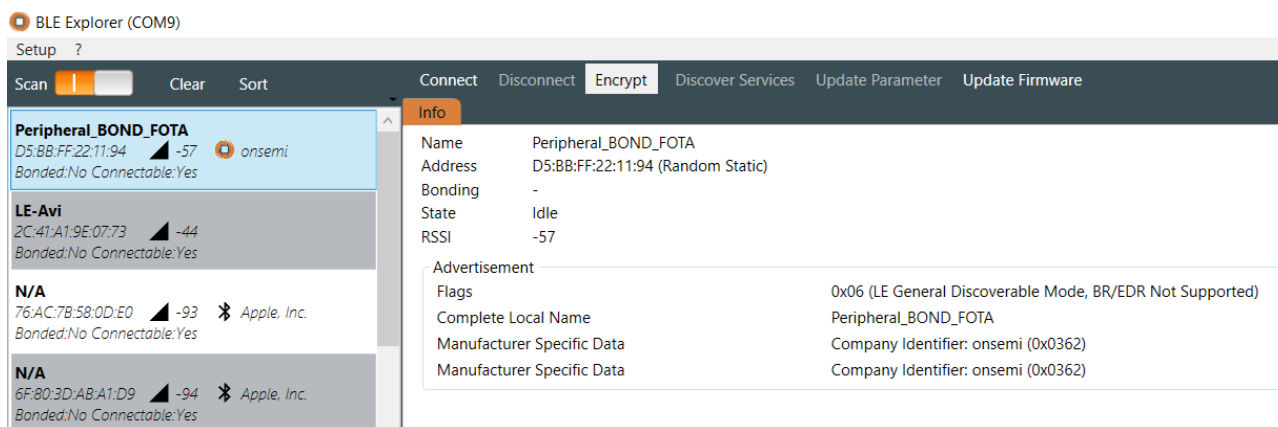

Figure 17. Application Running
4. Verify that your application is running by looking for the advertisement name **Peripheral_BOND_FOTA** on the RSL10 Bluetooth Low Energy Explorer, as in the figure "Application Running" (Figure 17):